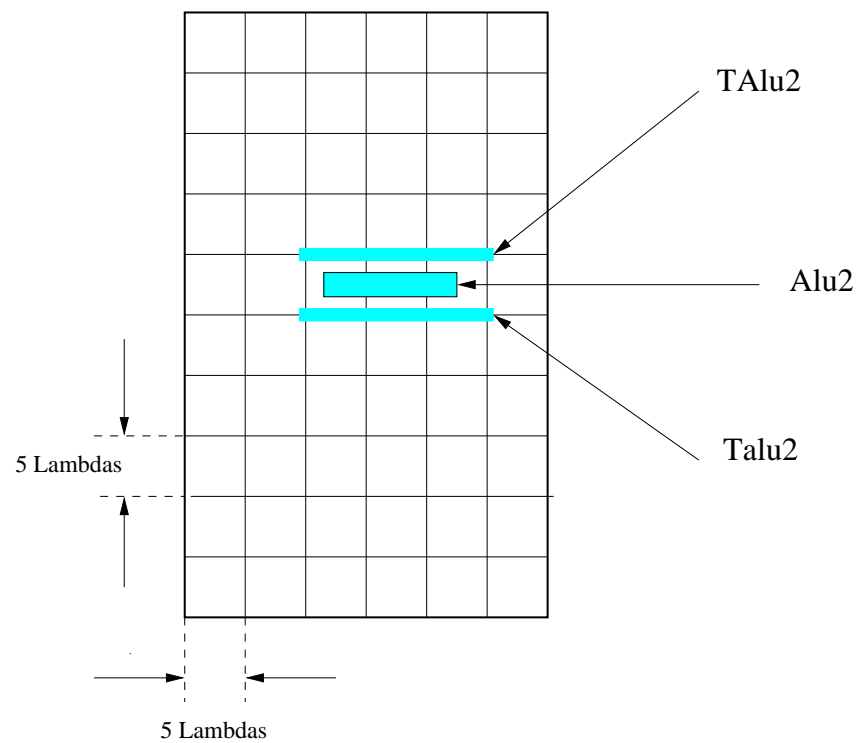

Figure 5: Use the layer TAluX like protection
- The special segments TALux (TAlu1, TAlu2...) are used to indicate the obstacles for the router. When you want to protect AluX segment, it is necessary to cover them or surround them by corresponding TALux (same layer). TALuX are placed on a grid with 5 lambdas steps (figure 5).